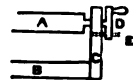

Fig. 3.
about two tons. The feature in it is the roller in Fig. 3. This roller is shown more clearly at A; B being the standing part or boom proper. There is a metal cap (C), which is secured to the lower boom (B), and in which the roller revolves. The winch (D) is firmly secured to the projecting pintle of the roller through the cap (C), and as the foot of the sail is fastened to the roller, on the halyards being lowered and the winch turned the sail reefs up, and *vice versa*. The luff must be cut at less than a right angle with the boom or the sail will jam in rolling. The pin (E), running through the lower part of the winch (D) into C, makes the roller fast where required. In some cases the roller is dispensed with, and the boom revolves on a gooseneck, the sail rolling round the boom itself.